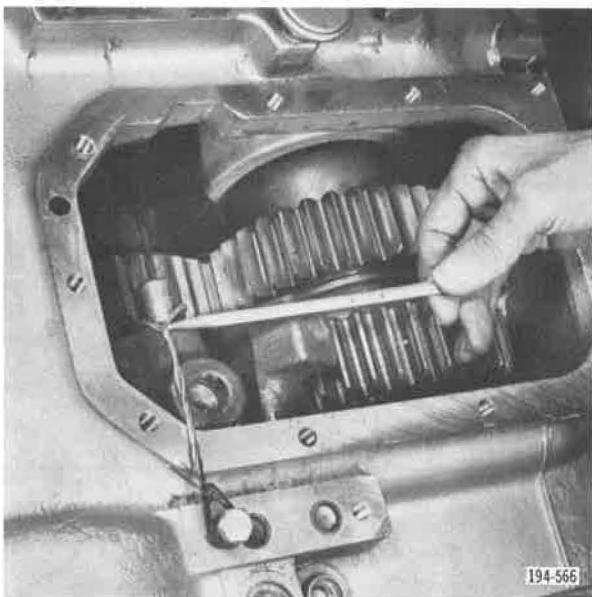

Figure 5-497. Wire Holding Shift Fork
31. Install a wire to hold the Direct/Lo-range shift fork from sliding forward. See Figure 5-497.